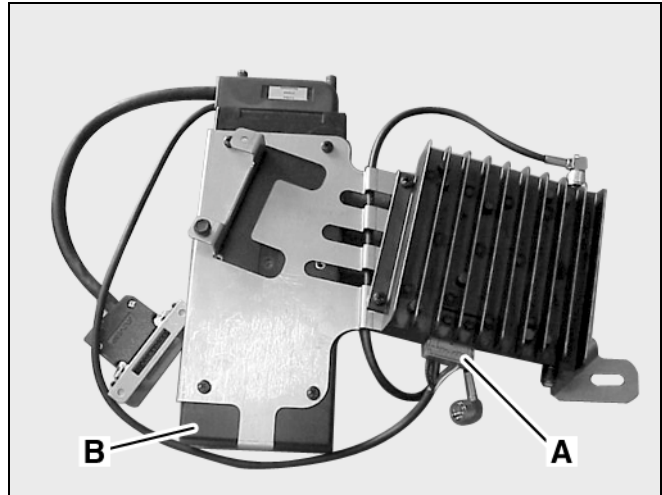

Figure 1
2. Mount the linear compensator to the installation bracket with four M4 x 10 screws positioning compensator so the receptacle for the green 14-pole connector faces the bracket side with the mounting tab (A, Figure 1).
3. Mount the PSE to the installation bracket with four M4 x 6 screws (B, Figure 1).